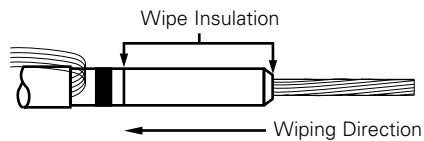

Figure 8. Line illustration of insulation cleaning.
- Clean insulation thoroughly with solvent dampened rag, wiping from conductor end toward insulation shield. (Refer to Figure 8.)